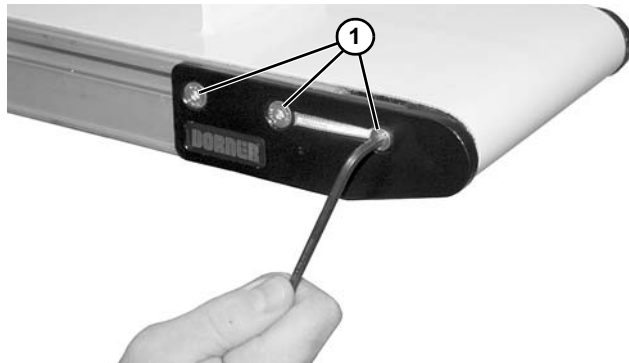

Figure 71
3. Install the headplate over the drive pulley and attach the headplate to the conveyor frame with three screws (**Figure 71, item 1**). Tighten screws to 7 Nm.